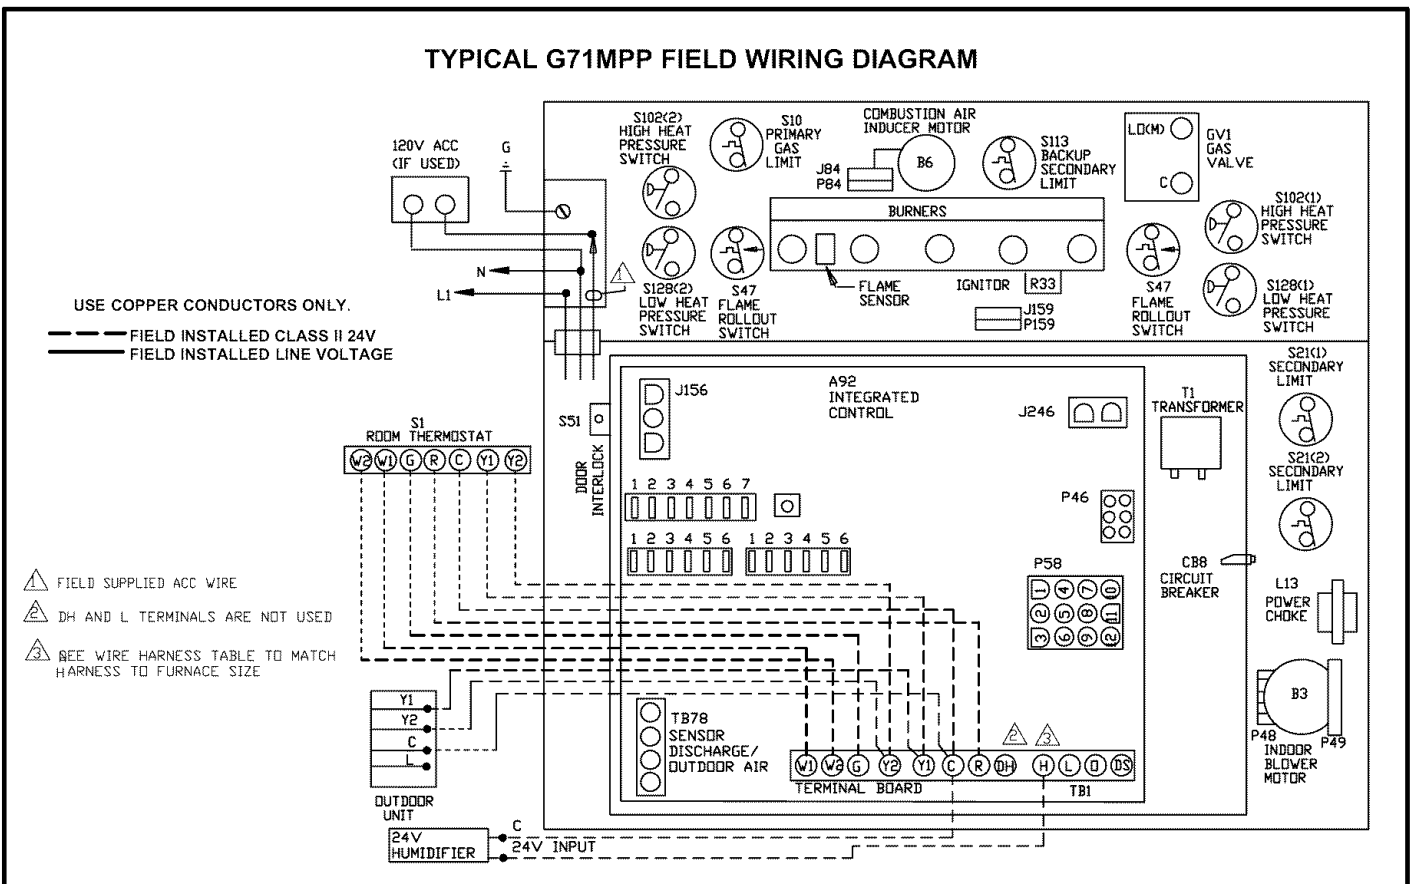

FIGURE 40
Refer to figure 40 and table 10 for field wiring and figure 41 for schematic wiring diagram and troubleshooting.
- 5 - Complete the wiring connections to the equipment. Use the provided unit wiring diagram and the field wiring diagram shown in figure 40 and table 10. Use 18-gauge wire or larger that is suitable for Class II rating for thermostat connections.